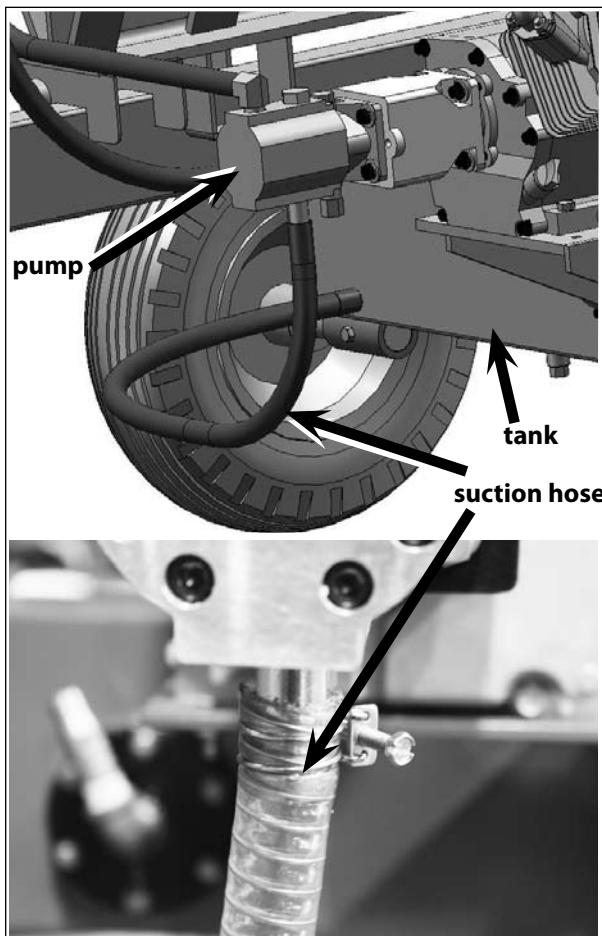

Figure 13
17. Attach the clear suction hose to the suction port on the tank and to the intake port on the pump. Tighten securely using two hose clamps. **SEE FIGURE 13.**
19. Attach the high pressure hose to the high pressure port on the valve and to the outlet port on the pump. **SEE FIGURE 13 and 14.** *Tip: Jiggle the fitting while tightening to ensure proper seating of the fitting.*